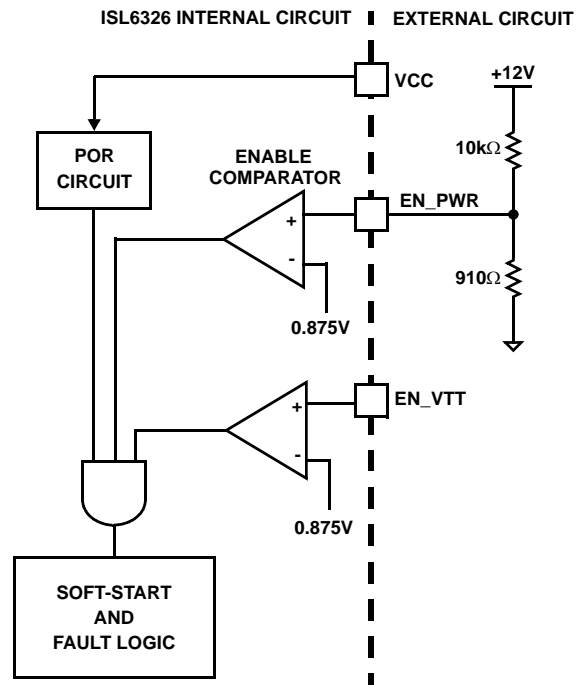

FIGURE 7. POWER SEQUENCING USING THRESHOLD-SENSITIVE ENABLE (EN) FUNCTION
2. The ISL6326 features an enable input (EN\_PWR) for power sequencing between the controller bias voltage and another voltage rail. The enable comparator holds the ISL6326 in shutdown until the voltage at EN\_PWR rises above 0.875V. The enable comparator has about 130mV of hysteresis to prevent bounce. It is important that the driver ICs reach their POR level before the ISL6326 becomes enabled. The schematic in Figure 7 demonstrates sequencing the ISL6326 with the ISL66xx